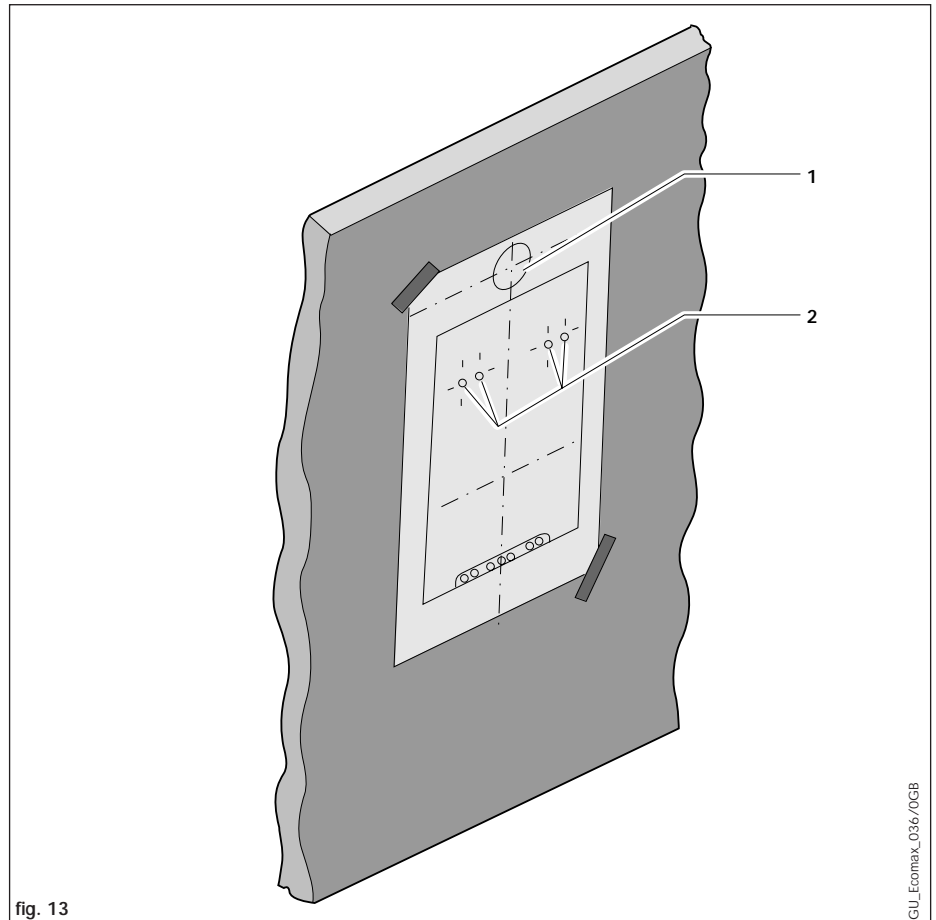

fig. 13
4.3.2 Using the boiler template (fig. 13)
Mark on the wall the position of the hanging bracket fixing holes (2, fig. 13). Drill 2 holes \varnothing 8 mm for the hanging bracket.
Mark the position of the centre of the air/flue duct and its circumference, e.g. by drilling through the template (1, fig. 13).